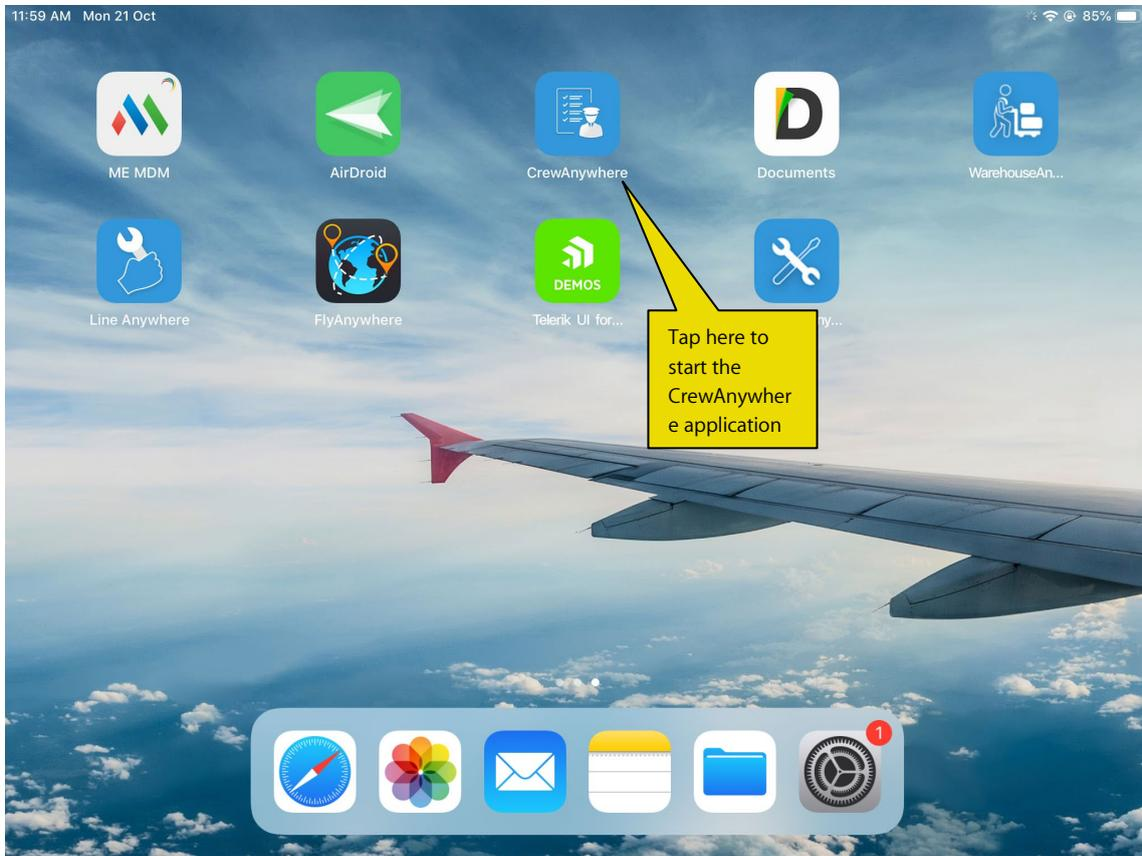

Figure 4.1: The screen saver of the iPad device
1. Opening screen of the **iPad** device in which **CrewAnywhere** is installed for flight operations. From here you can initiate the access to **CrewAnywhere**. See *Figure 4.1*.